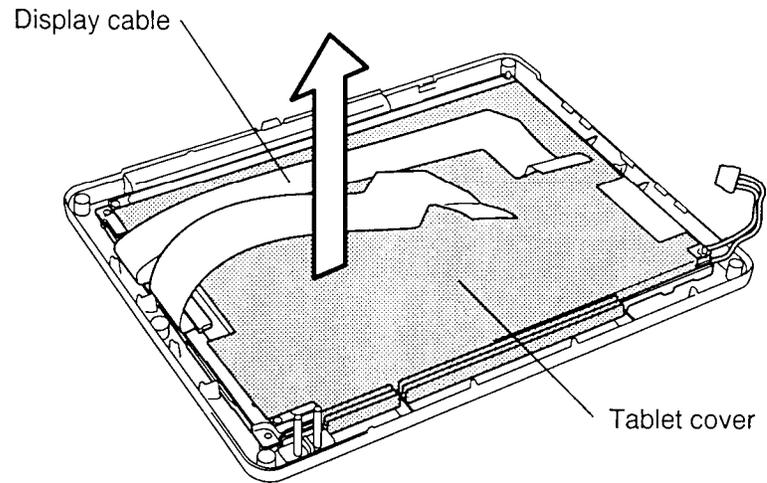

Figure 4-21 Removing the T200CS Tablet Cover
5. Lift up the **display cable** and lift the **tablet cover** out of the display module (Figure 4-21).
2. Lift the cables up and out of the way, then place the **tablet cover** on the **tablet** (Figure 4-21).